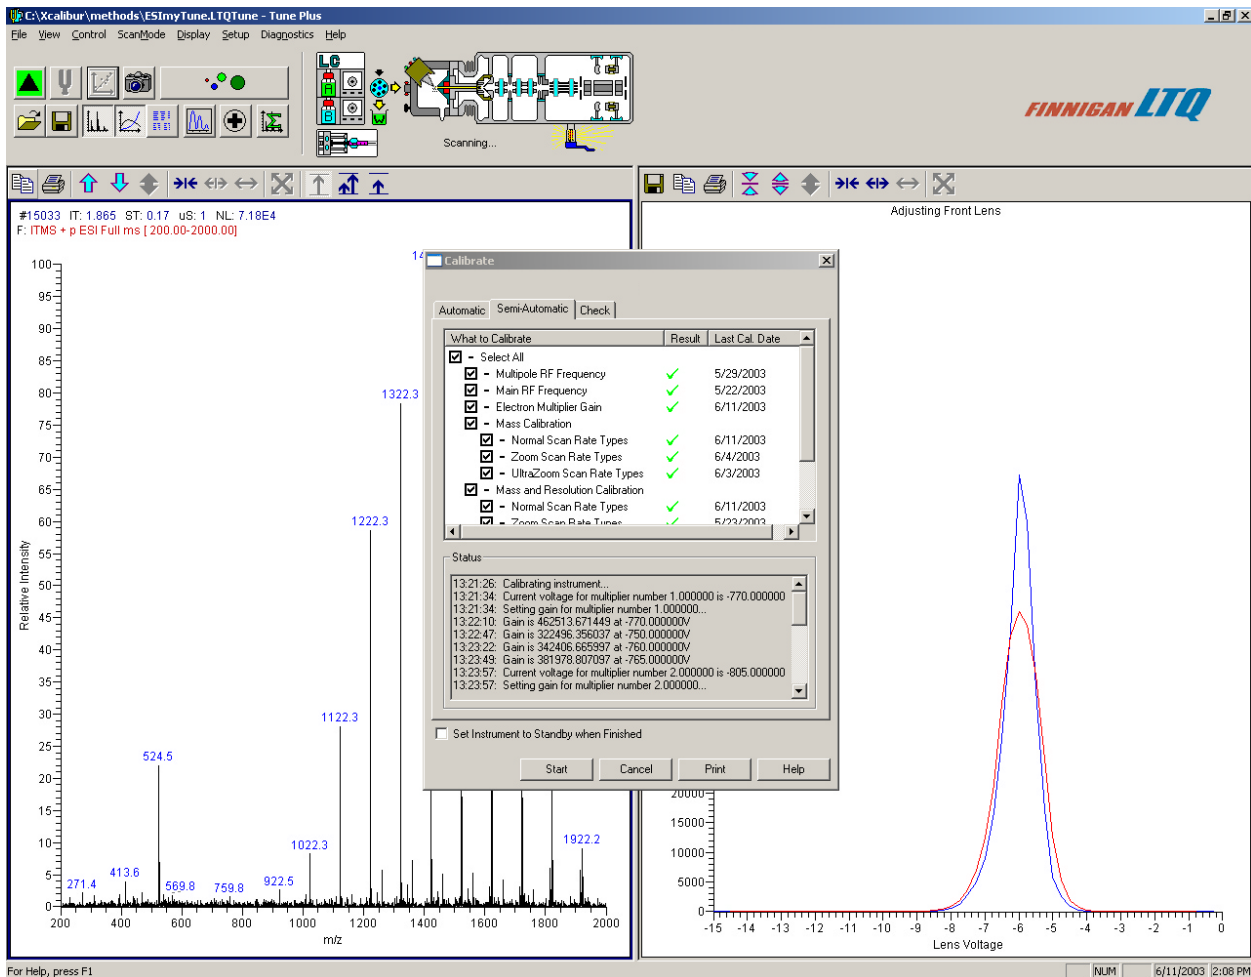

Figure 3-14. Tune Plus window with Calibrate dialog box, showing the results of a successful semi-automatic calibration procedure
- If a calibration item fails, you can try calibrating on that item again after you ensure the following: the spray is stable, the solution flow rate is sufficient, and all the ions in the calibration solution are present with adequate signal-to-noise ratios. If the sensitivity of the ions is low, increase the solution flow rate somewhat, and then use the *semi-automatic* calibration procedure to calibrate the specific parameter that failed. See Figure 3-14. Consider deselecting the ZoomScan Mode option if repeated failures occur.